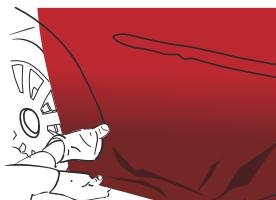

Figure 11
- › Apply the peak with your finger or a felt-covered plastic squeegee. (FIG. 11)